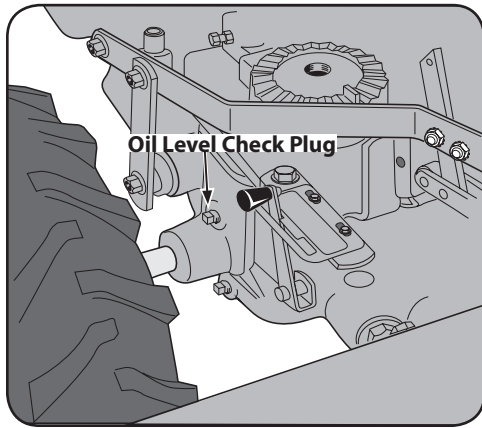

Figure 5-6
- Use a $\frac{3}{8}$ " wrench to remove the oil level check plug on the left side of the transmission housing. See Figure 5-6.
- Remove the dipstick from the tine attachment. See Figure 5-6.